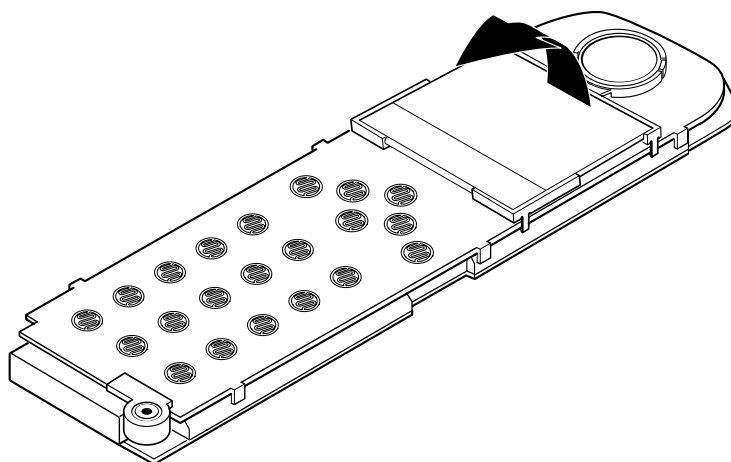

Figure 8: LC removal 1
8. Figure 8 Tip LC display forward to allow removal of the LC earpiece holder